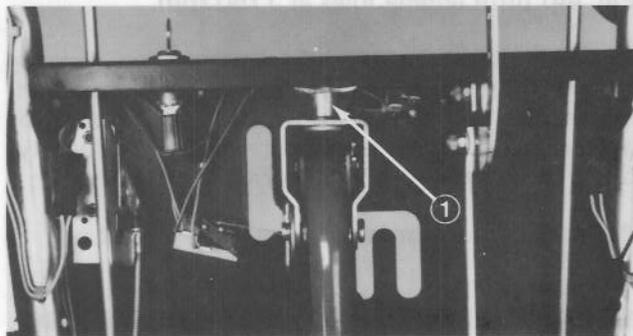

Figure 41
1. Loosen two capscrews and locknuts holding swivel bracket against control panel (Fig. 41).
2. To reduce speed in 1 – 1st gear – move swivel bracket (Fig. 41) to the right. By contrast, move swivel bracket to the left to increase speed in 1st gear.
3. When desired adjustment is obtained, tighten the two capscrews and locknuts (Fig. 41). Assure that wires do not get pinched between control panel and wire guide.